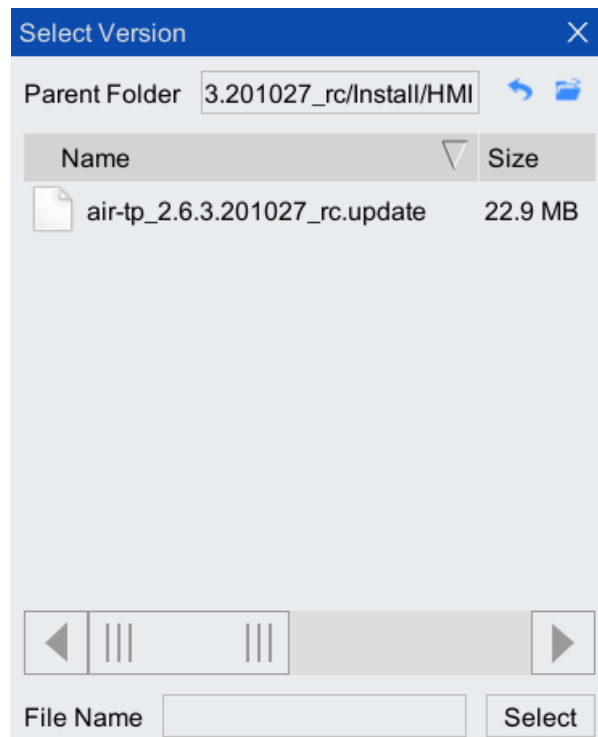
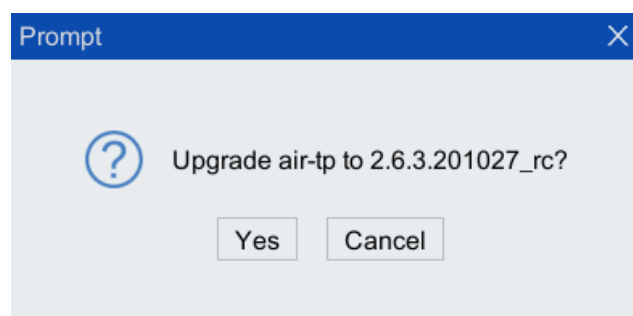
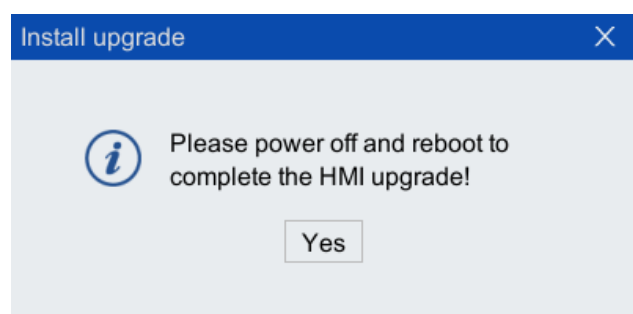

Figure 8-37 Path where HMI upgrade file is located
Figure 8-38 "Upgrade HMI to the corresponding version" dialog box
Figure 8-39 "Power off and restart to complete HMI upgrade" dialog box
Step2. As shown in Figure 8-37 switch the path to the path where the HMI upgrade file is located, select the HMI upgrade file, click <Select> button to pop up "Upgrade AIR-TP to \*\*\*\*?" dialog box in Figure 8-38, and click <Yes> button. When "Please power off and reboot to complete the HMI upgrade!" dialog box in Figure 8-39 pops up, click <Yes> button to restart the control cabinet to complete the HMI upgrade.